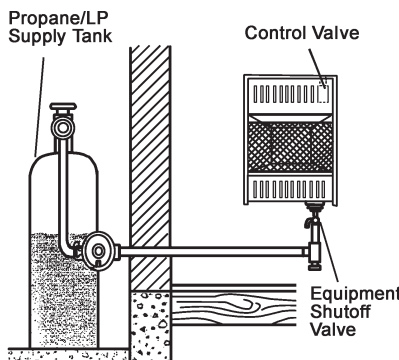

Figure 15 -Checking Gas Joints
4. Check all joints from equipment shutoff valve to control valve (see Figure 15). Apply mixture of liquid soap and water to gas joints. Bubbles forming show a leak.